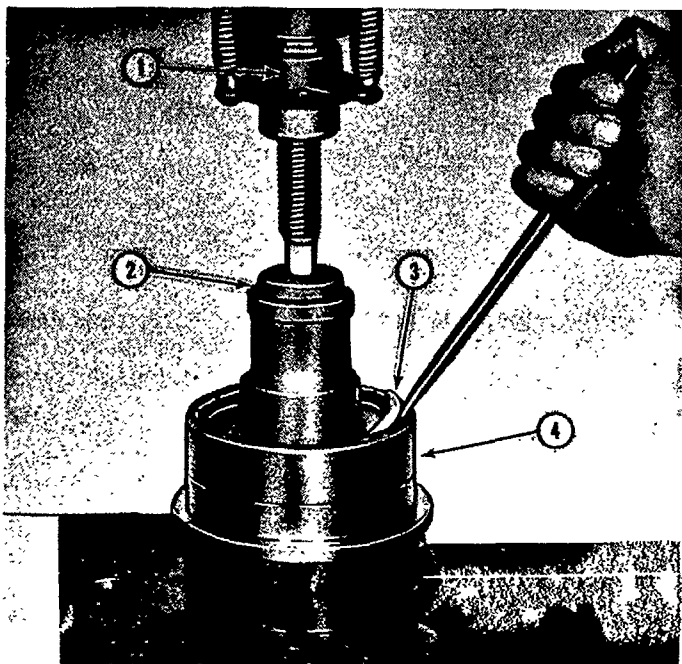

Figure 21
1. Install the Load Monitor unit in a press as shown in Figure 21.